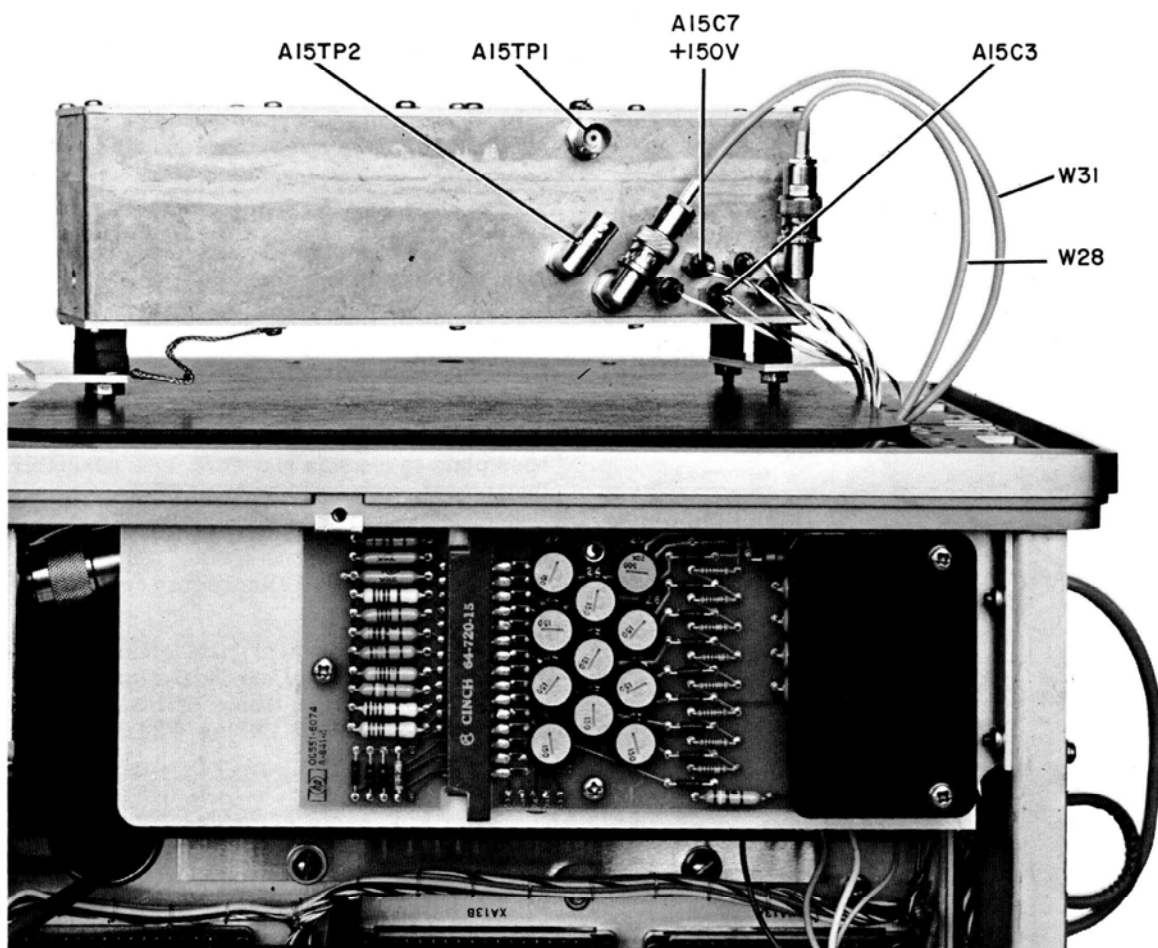

Figure 5-15. Test Points for Lock Assembly Adjustments
- Remove top and right side covers of 8551B; disconnect Cables W28 and W31 at Connectors J27 and J30 (see Figure 5-15).